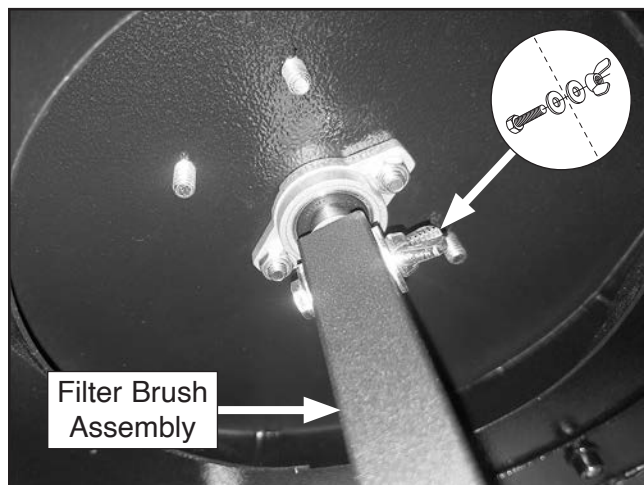

Figure 32. Filter brush assembly attached to motor spindle.
17. Attach filter brush assembly to motor spindle using (1) 1/4"-20 x 1 1/4" hex bolt, (2) 1/4" flat washers, and (1) 1/4"-20 wing nut, as shown in **Figure 32**.